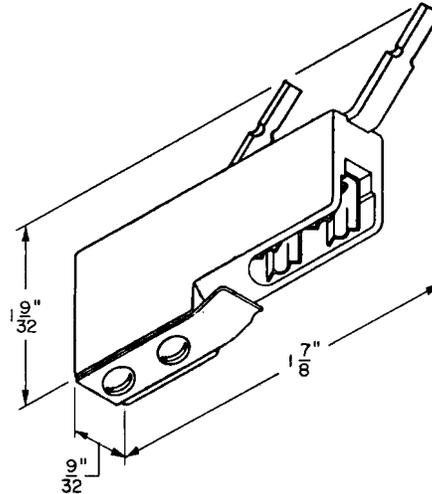

Fig. 16—B Test Clip
**2.26 B Test Clip:** The B test clip (Fig. 16) is used on 121-type protectors and 300-type connectors to provide means for connecting to the cable pairs at the test terminals. This clip is used with the M2EM cord for bypassing the protector.